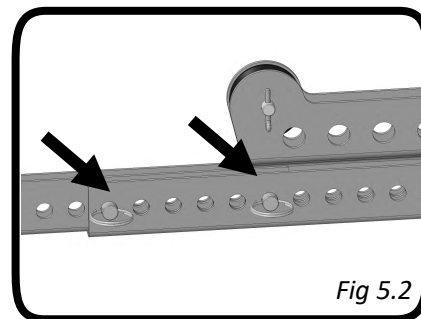

Fig 5.2
2. Also place short pins in the last hole of each length adjuster, even if it passes through the pulley holder again. While 8 pins are provided, they may not all be necessary for some configurations. (Fig 5.2)